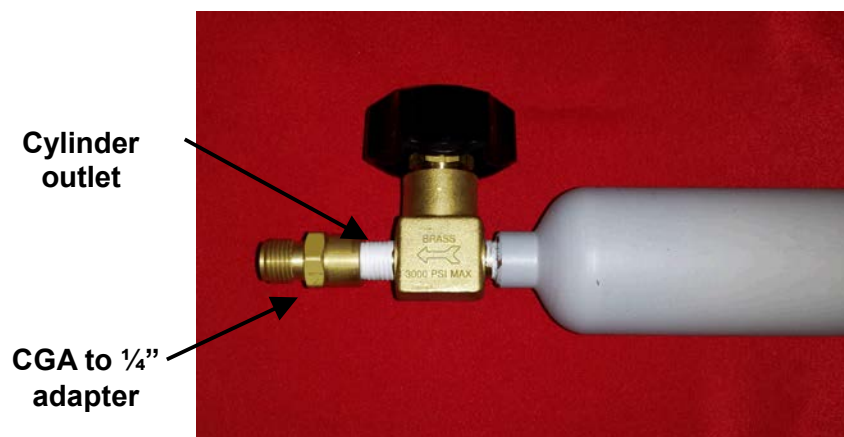

Figure 4.
2. Remove the plastic cap from the CGA 180 inlet (nut marked "180") of the CJ Tee Syringe Adapter, ensuring the PTFE washer remains in place, and connect this to the other end of the CGA to 1/4" adapter. Do not use PTFE tape. Tighten with a wrench (see Figure 4).